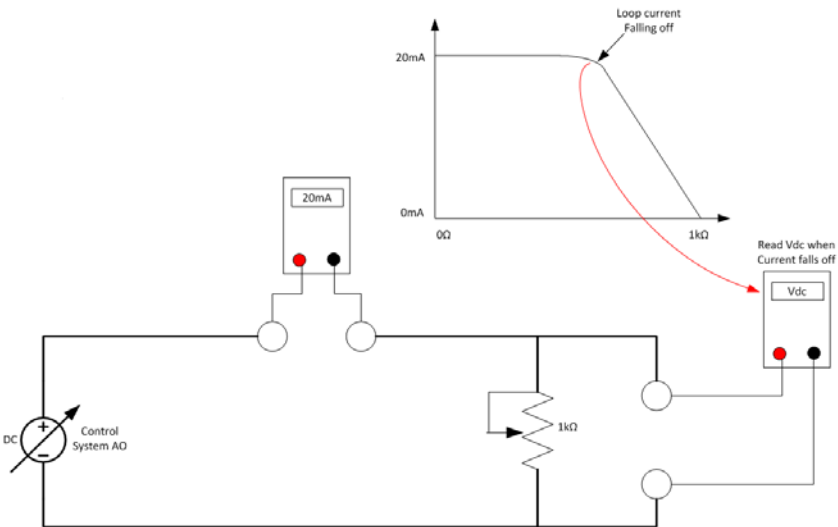

Figure 35 Compliance Voltage Test Set-Up
1. Configure a test set-up as in Figure 35.